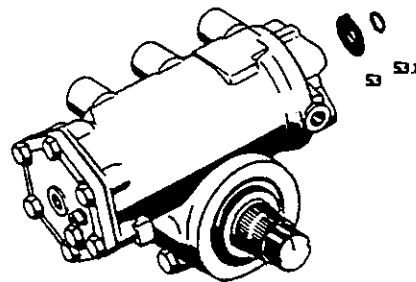

Fig.56
Slip protecting cap (53) onto the worm stub and fit retaining ring (53.1) (Fig.56).